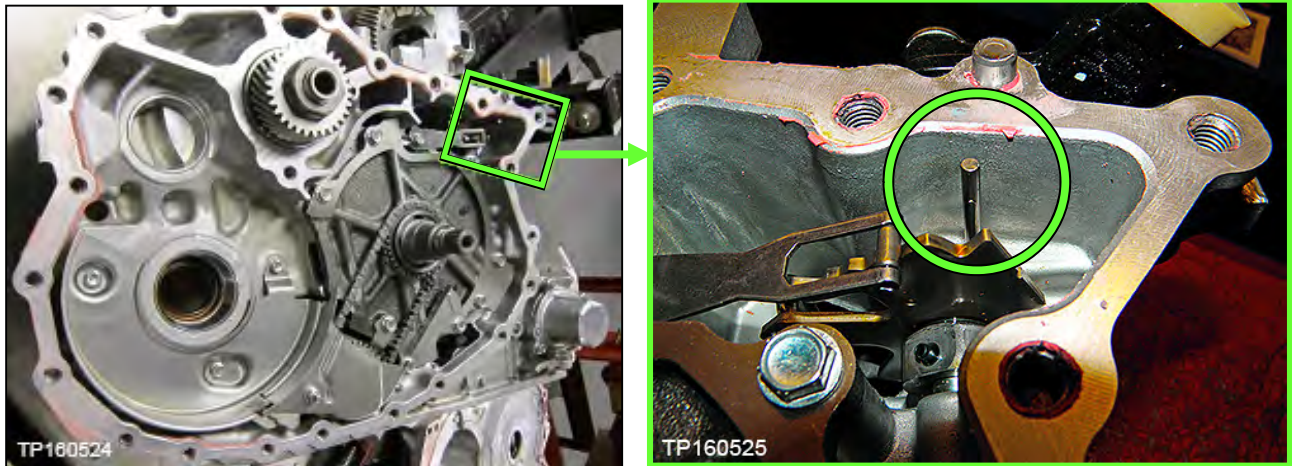

Figure 32
17. Note the location of the pin shown in Figure 32.